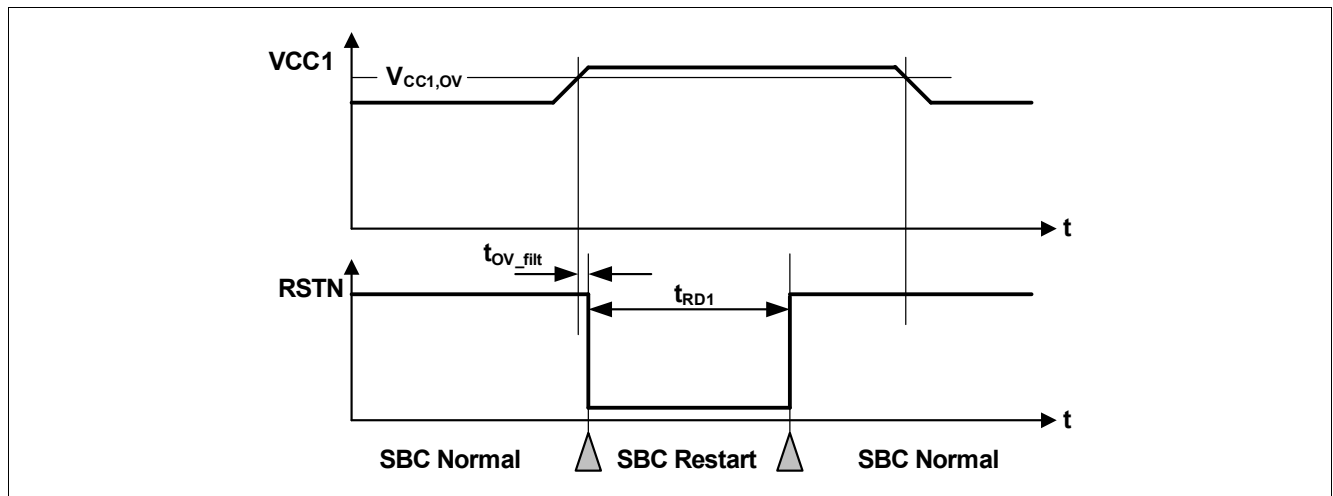

Figure 38 VCC1 Over Voltage Timing Diagram
- If the bit **VCC1\_OV\_RST** is set and **CFG0\_STATE** = '1', then SBC Restart Mode is entered. The FO output is activated. After the reset delay time ( $t_{RD1}$ ), the SBC Restart Mode is left and SBC Normal Mode is resumed even if the VCC1 over voltage event is still present (see also **Figure 38**). The **VCC1\_OV\_RST** bit is cleared automatically;